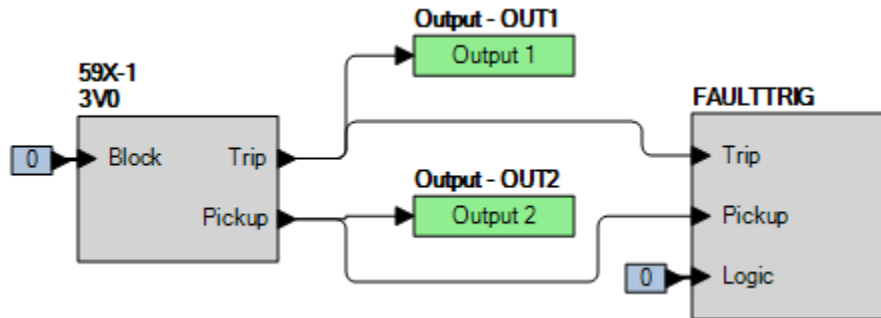

Figure 63-1. BESTlogicPlus Settings (3V0 Mode)
Step 2: Use BESTCOMSPi.us to configure the BESTlogicPlus programmable logic shown in Figure 63-1.
Step 4: Prepare to monitor the 59X-1 function operation. Operation can be verified by monitoring OUT2 (see Figure 63-1).